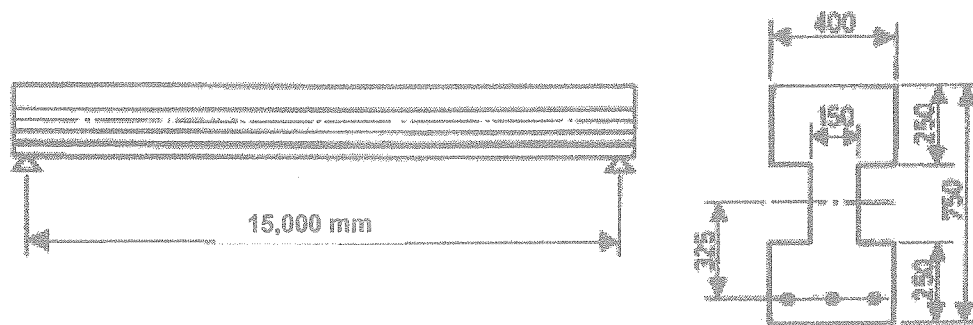

Figure Q2
- Q1. a) List out various applications of pre-stressed concrete (PC). [1.0 Mark]
- Q2. A simply supported pre-tensioned concrete beam has dimensions as shown in Figure Q2 and span 15.0 m. Pre-tensioned member is subjected to initial pre-stressing force of 1100 kN and member carries an uniformly distributed imposed load of 12 kN/m. Determine the extreme fiber stresses at the mid-span for the following both cases.
- a) Calculate cross sectional area and sectional modulus of the section shown in Figure Q2. [2.0 Marks]